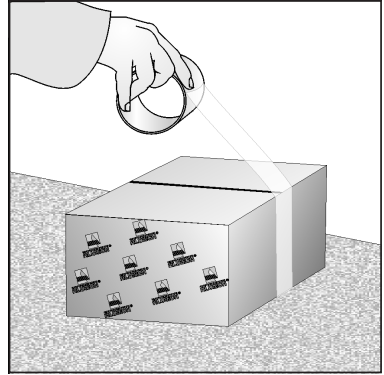

Fig. 06
- d) packing the components (Fig. 06).